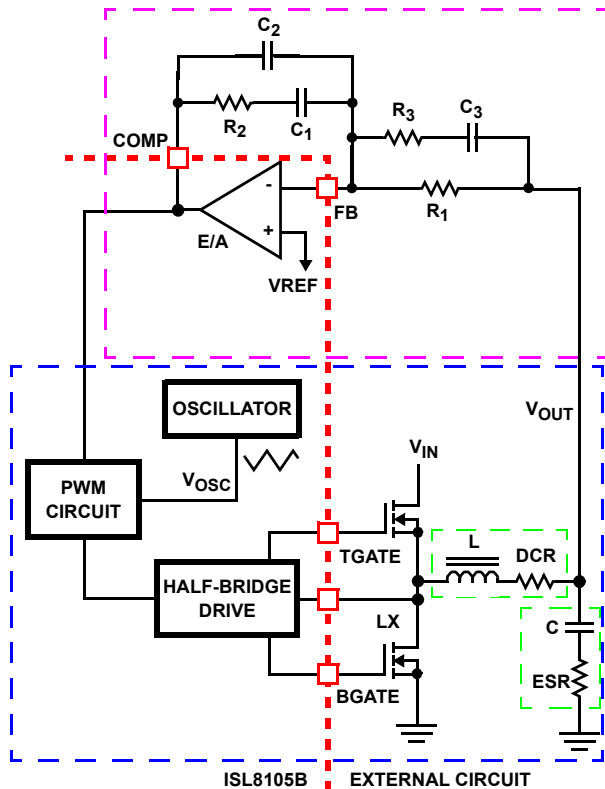

FIGURE 9. VOLTAGE-MODE BUCK CONVERTER COMPENSATION DESIGN
This section highlights the design considerations for a voltage-mode controller requiring external compensation. To address a broad range of applications, a type-3 feedback network is recommended (see Figure 9).
Figure 9 highlights the voltage-mode control loop for a synchronous-rectified buck converter, applicable to the ISL8105B circuit. The output voltage (V_{OUT}) is regulated to the reference voltage, V_{REF} , level. The error amplifier output (COMP pin voltage) is compared with the oscillator (OSC) triangle wave to provide a pulse-width modulated wave with an amplitude of V_{IN} at the LX node. The PWM wave is smoothed by the output filter (L and C). The output filter capacitor bank's equivalent series resistance is represented by the series resistor ESR.
The compensation network consists of the error amplifier (internal to the ISL8105B) and the external R_1 to R_3 , C_1 to C_3 components. The goal of the compensation network is to provide a closed loop transfer function with high 0dB crossing frequency (F_0 ; typically 0.1 to 0.3 of f_{SW}) and adequate phase margin (better than $+45^\circ$). Phase margin is the difference between the closed loop phase at F_{0dB} and $+180^\circ$. The equations that follow relate the compensation network's poles, zeros and gain to the components (R_1 , R_2 , R_3 , C_1 , C_2 , and C_3) in Figure 9. Use the following guidelines for locating the poles and zeros of the compensation network:
1. Select a value for R_1 (1kΩ to 10kΩ, typically). Calculate value for R_2 for desired converter bandwidth (F_0). If setting the output voltage to be equal to the reference set voltage as shown in Figure 9, the design procedure is shown in Equation 5.